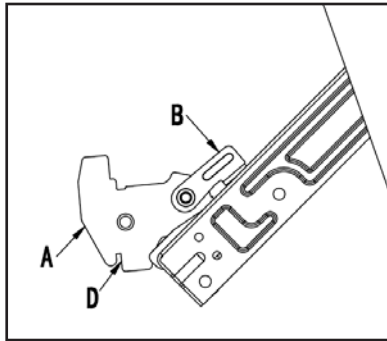

Fig 1
- Open the door completely and lift the 2 levers "B" (Fig. 1);